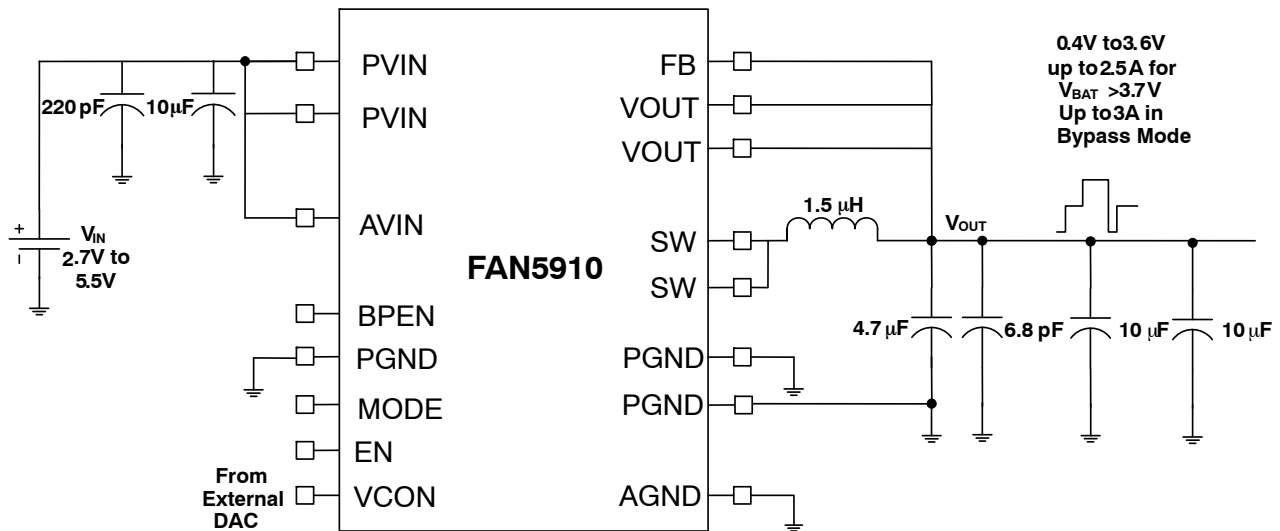

Figure 1. Typical Application
**Table 4. ELECTRICAL CHARACTERISTICS, ALL MODES** Recommended operating conditions, unless otherwise noted, circuit per Figure 1, minimum and maximum values are at  $V_{IN} = 2.7\text{ V}$  to  $5.5\text{ V}$ ,  $T_A = -40^\circ\text{C}$  to  $+85^\circ\text{C}$ ,  $V_{OUT} = V_{CON} \times 2.5 = 0.4\text{ V}$  to  $3.6\text{ V}$ ,  $V_{IN} \geq V_{OUT} + 0.3\text{ V}$ . Typical values are given  $V_{IN} = 3.8\text{ V}$  and  $V_{OUT} = 2.5\text{ A}$  at  $T_A = 25^\circ\text{C}$ .  $L = 1.5\text{ }\mu\text{H}$ , Murata DFE201610C,  $C_{IN} = 10\text{ }\mu\text{F}$  0402 Samsung CL05A106MP5NUNC,  $C_{OUT} = 1 \times 4.7\text{ }\mu\text{F}$  0402 Murata GRM155R60J475ME47D,  $2 \times 10\text{ }\mu\text{F}$  0402 Murata GRM188B30J106ME47D.